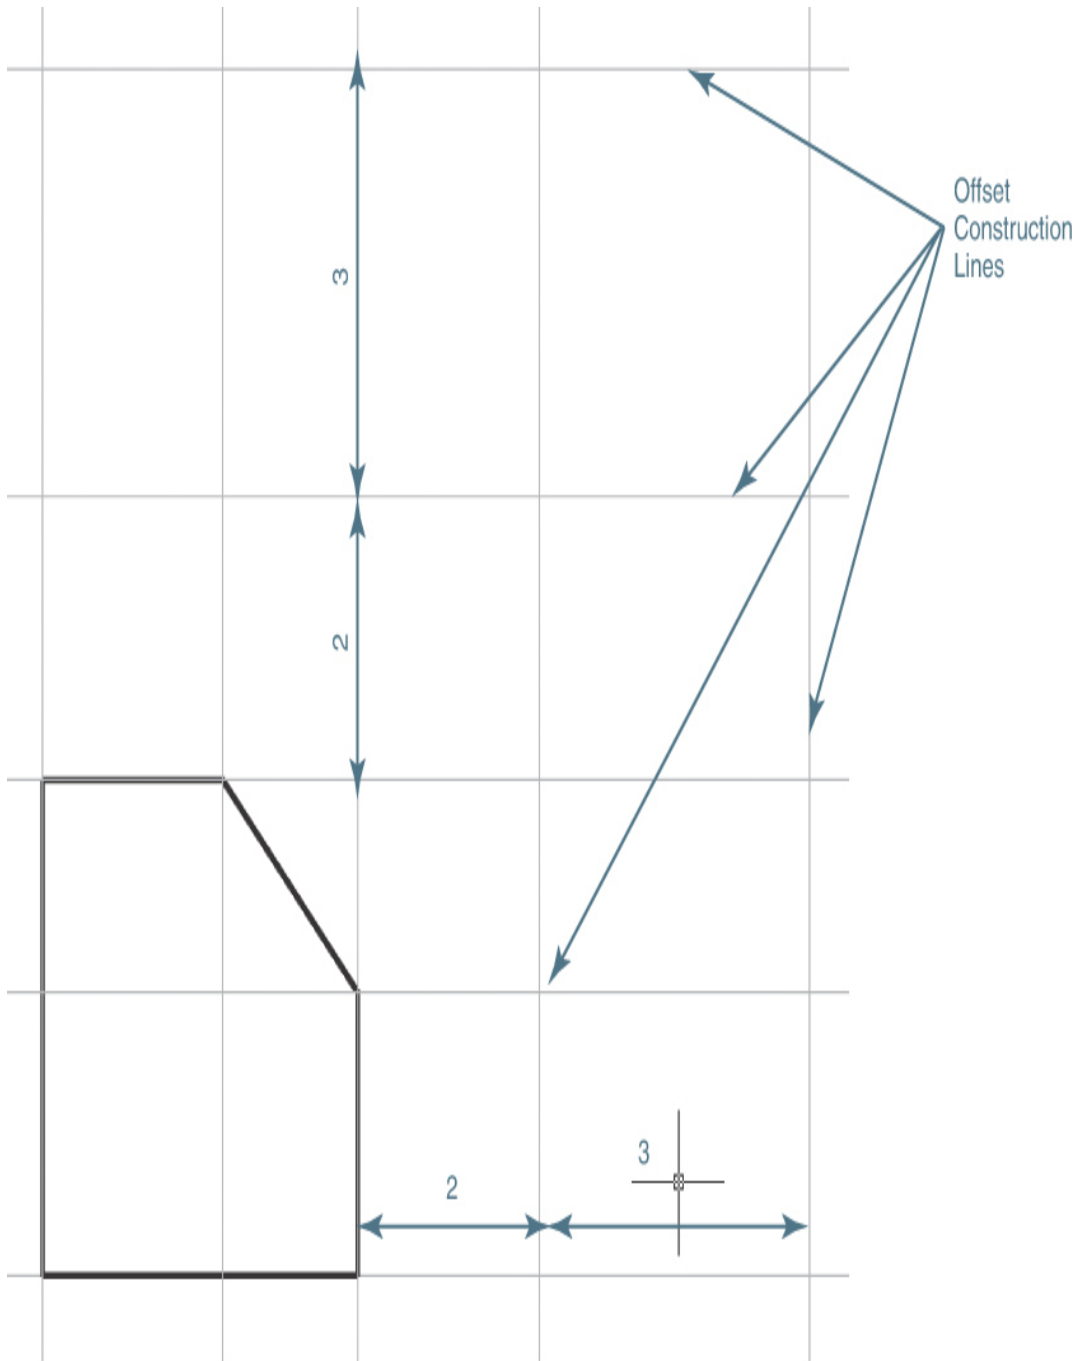

Figure 5-64
- 9 Repeat steps 6 and 7 to create a horizontal construction line offset 2 units up from the horizontal line on top of the part, as shown in Figure 5-64.
- 11 Repeat steps 2 through 9 to create vertical and horizontal construction lines offset 3 units from the construction lines you just created so your drawing looks like Figure 5-64.